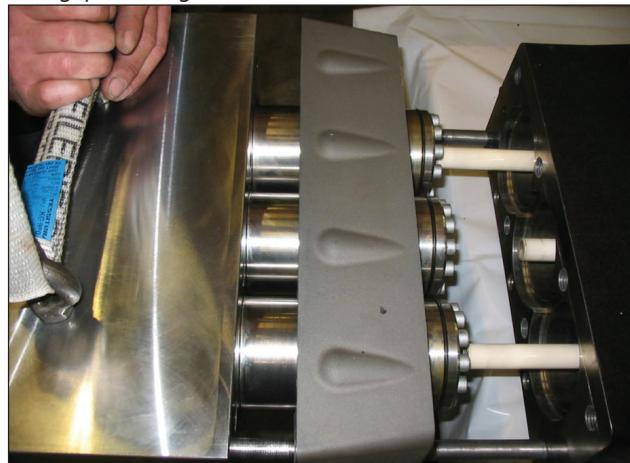

Fig. 99
Separate the head and the spacer for the liners from the pump casing (pos. ①, Fig. 99).